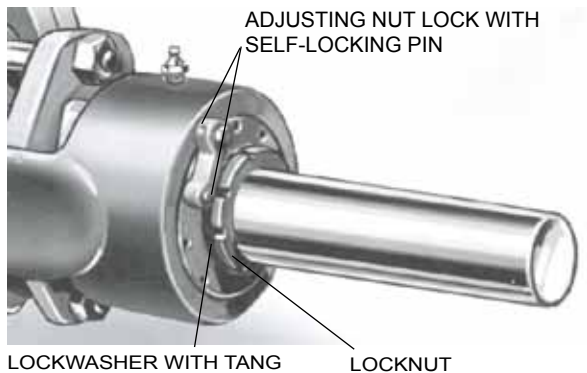

FIGURE 7
6. Bend the tang on the lock washer up, and with a spanner wrench remove the locknut and lockwasher from the shaft. Refer to Figure 7.